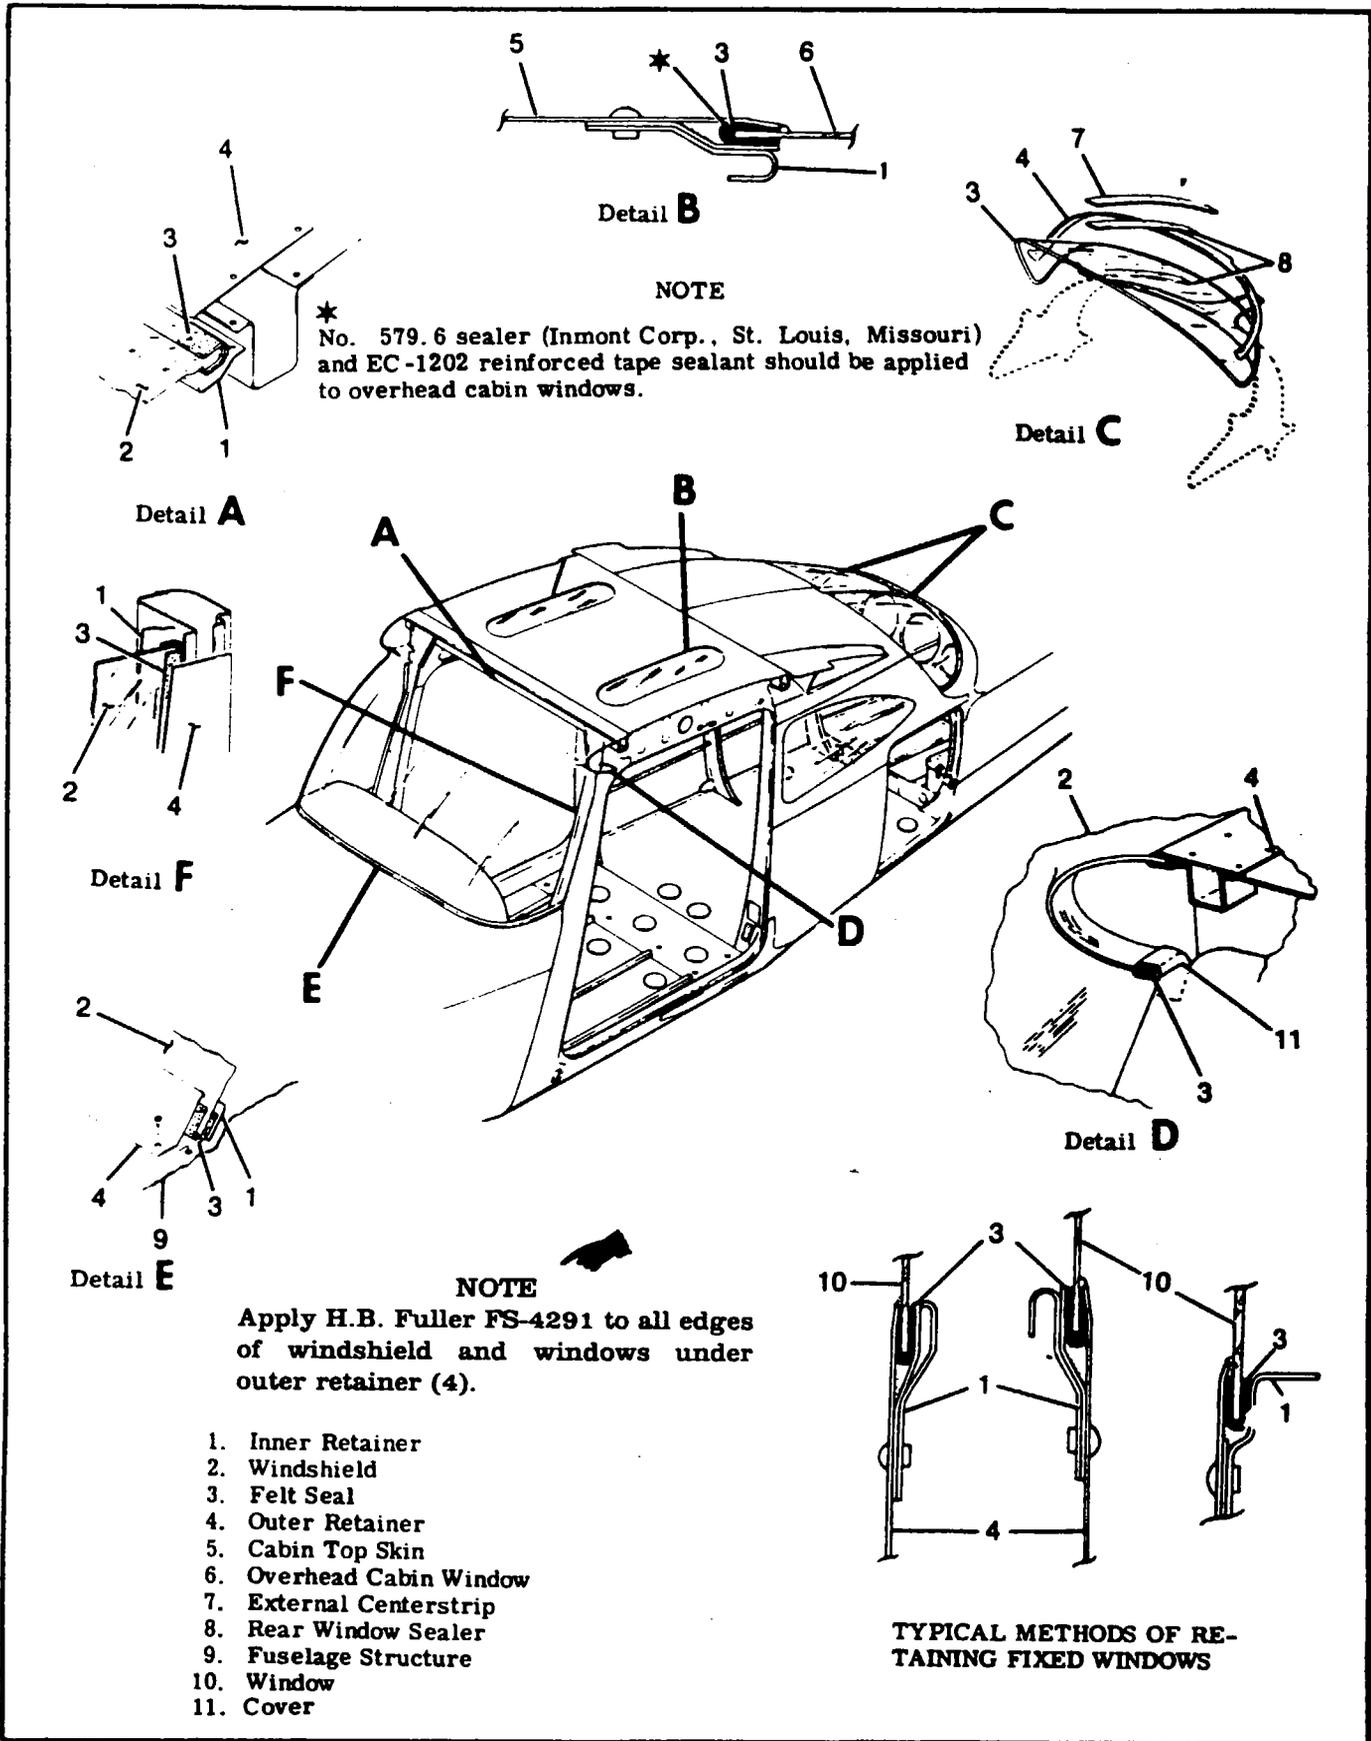
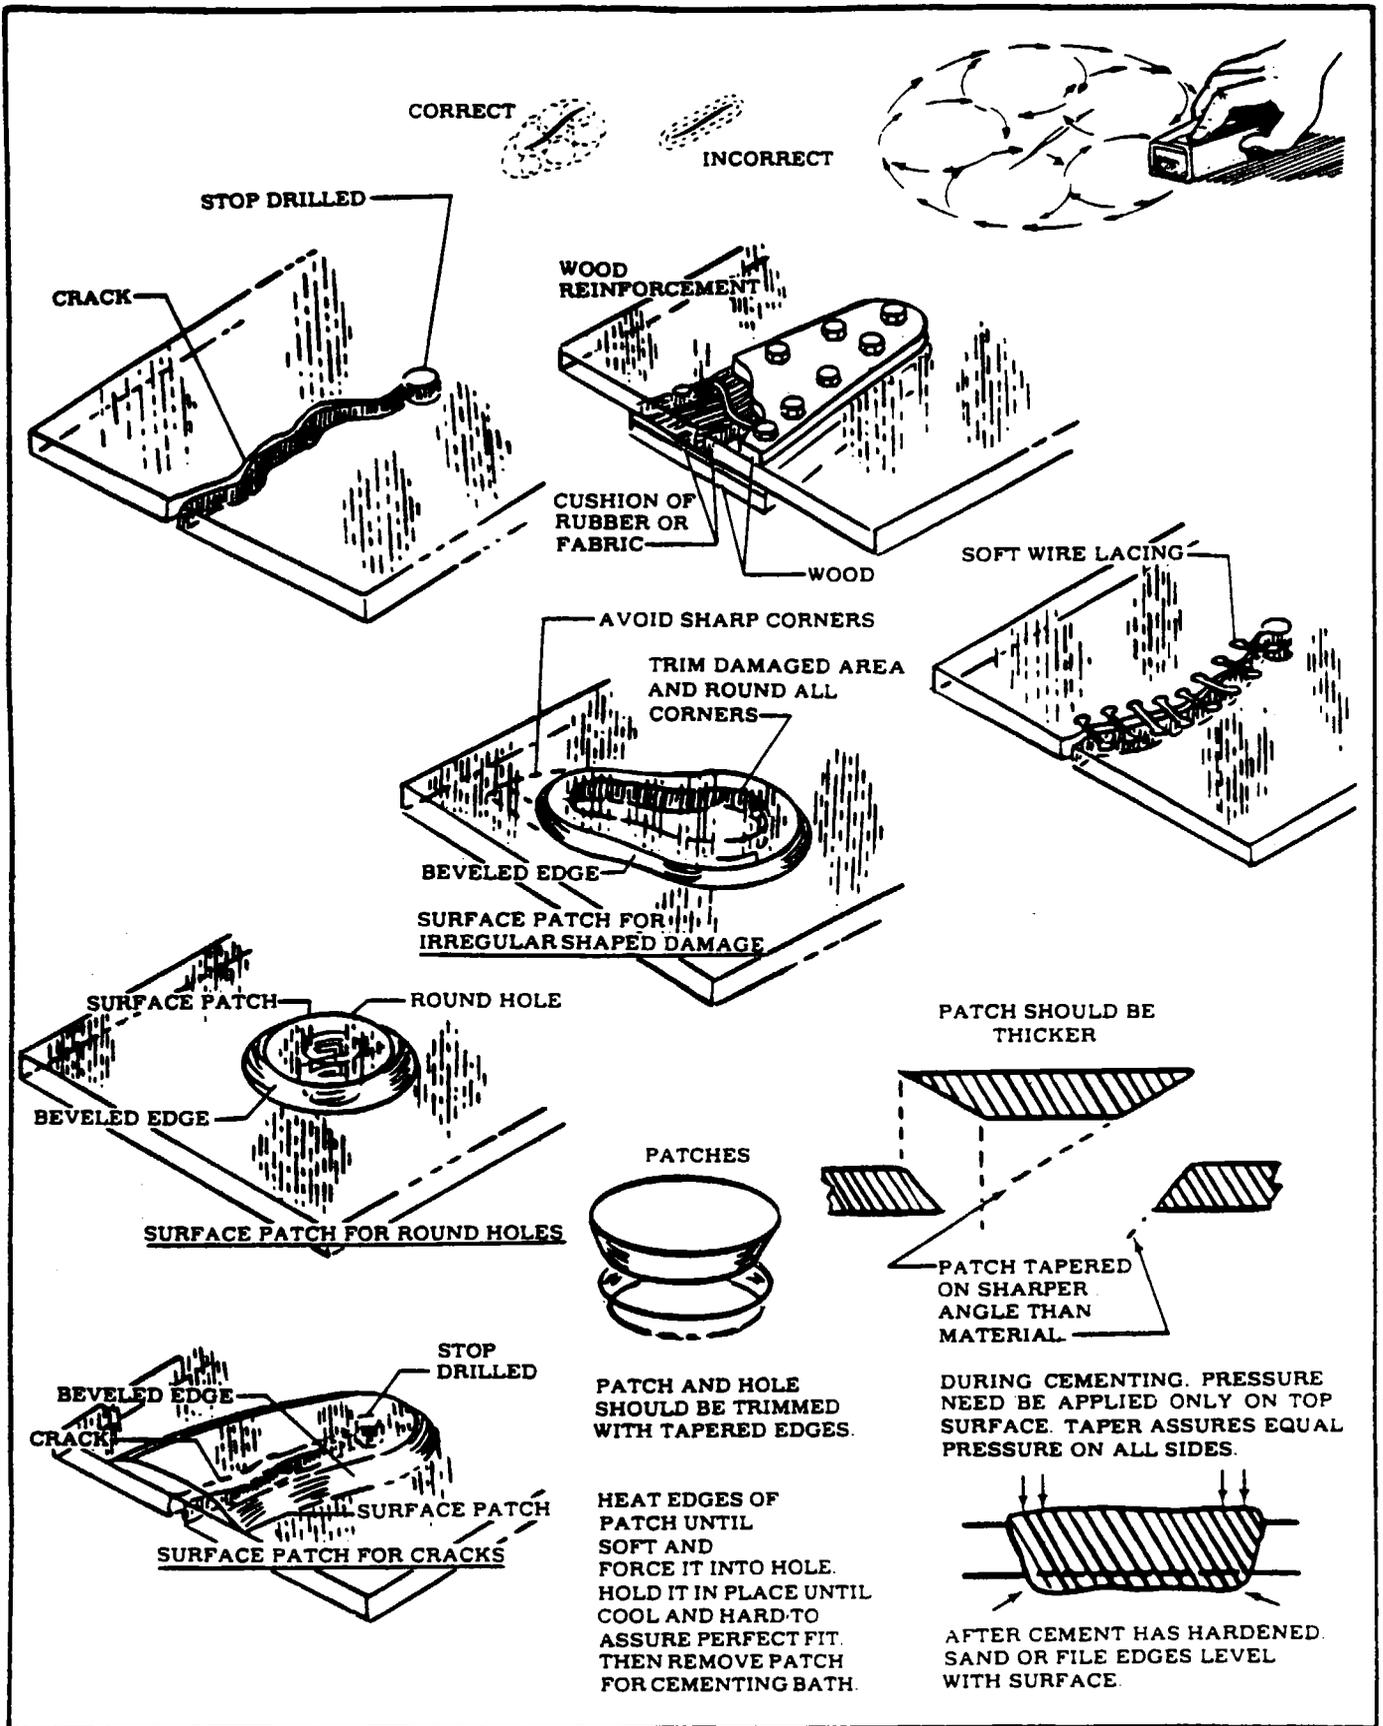

Figure 3-1. Windshield and Fixed Window Installation
Figure 3-2. Repair of Windshield and Windows
3-2. WINDSHIELD AND WINDOWS. (See figure 3-1.)
3-6. **REPAIR.** (See figure 3-2.) Replace extensively damaged transparent plastic rather than repair whenever possible, since even a carefully patched part is not the equal of a new section, either optically or structurally. At the first sign of crack development, drill a small hole at the extreme end of the crack as shown in figure 3-1. This serves to localize the cracks and to prevent further splitting by distributing the strain over a large area. If the cracks are small, stopping them with drilled holes will usually suffice until replacement or more permanent repair can be made. The following repairs are permissible; however, they are not to be located in the pilot's line of vision during landing or normal flight.
- a. **SURFACE PATCH.** If a surface patch is to be installed, trim away the damaged area and round all corners. Cut a piece of plastic of sufficient size to cover the damaged area and extend at least 3/4-inch on each side of the crack or hole. Bevel the edges as shown in figure 3-1. If the section to be repaired is curved, shape the patch to the same contour by heating it in an oil bath at a temperature of 248° to 302°F., or it may be heated on a hot plate until soft. Boiling water should not be used for heating. Coat the patch evenly with plastic solvent adhesive and place immediately over the hole. Maintain a uniform pressure of from 5 to 10 psi on the patch for a minimum of three hours. Allow the patch to dry 24 to 36 hours before sanding or polishing is attempted.
- b. **PLUG PATCH.** In using inserted patches to repair holes in plastic structures, trim the holes to a perfect circle or oval and bevel the edges slightly. Make the patch slightly thicker than the material being repaired, and similarly bevel the edges. Install patches in accordance with procedures illustrated in figure 3-1. Heat the plug until soft and press into the hole without cement and allow to cool to make a perfect fit. Remove the plug, coat the edges with adhesive, and then reinsert in the hole. Maintain a firm light pressure until the cement has set, then sand or file the edges level with the surface; buff and polish.
3-7. **SCRATCHES.** (See figure 3-2.) Scratches on clear plastic surfaces can be removed by hand-sanding operations, followed by buffing and polishing, if the steps below are followed carefully.
3-8. CRACKS. (See figure 3-2.)
3-9. WINDSHIELD. (See figure 3-1.)
3-12. WINDOWS. (See figures 3-1 and 3-3.)
3-15. **WRAP-AROUND REAR WINDOW.** (See figure 3-1.) The rear window is a one-piece, acrylic plastic panel, set in sealing strips and held in place by retaining strips.
3-16. REMOVAL AND INSTALLATION. (See figure 3-1.)
3-17. **OVERHEAD WINDOW.** (See figure 3-1.) Overhead cabin windows, located in the cabin top, may be installed. These windows are one-piece, acrylic plastic panels, set in sealing strips and held in place by retaining strips.
3-18. REMOVAL AND INSTALLATION. (See figure 3-1.)
3-19. **FIXED.** (See figure 3-1.) Fixed windows, mounted in sealing strips and sealing compound, are held in place by various retainer strips. To replace side windows, remove upholstery and trim panels as necessary, and drill out rivets securing retainers. Apply felt strip and sealing